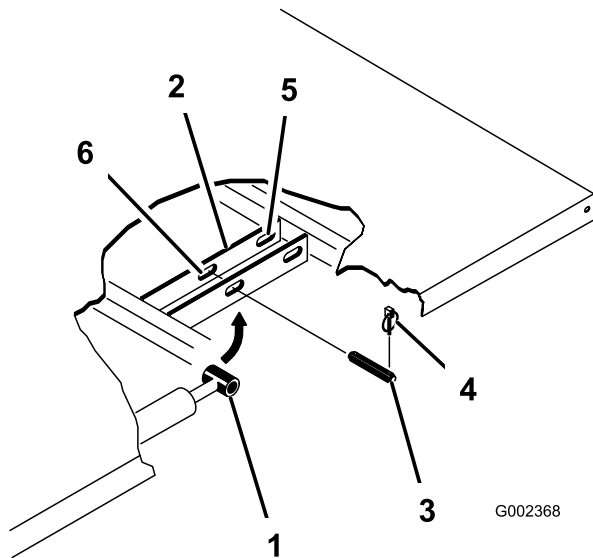

Figure 11
2. Remove lynch pins from outer ends of cylinder rod clevis pins (Figure 11).
3. Remove clevis pins securing cylinder rod ends to bed mounting plates by pushing pins towards inside (Figure 11).
4. Remove lynch pins and clevis pins securing pivot brackets to frame channels (Figure 11).